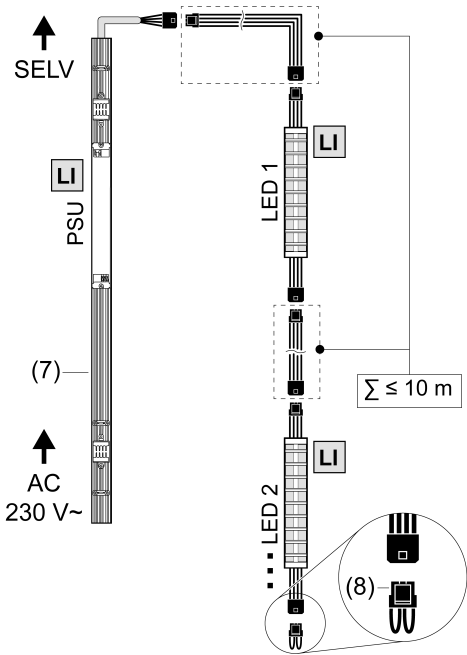

Figure 4: Connection diagram
- Link the light inserts together according to the connection diagram and connect them with a suitable operating device (7) (Figure 4).
- Always put a jumper plug (8) in the outlet of the last light insert of the link.